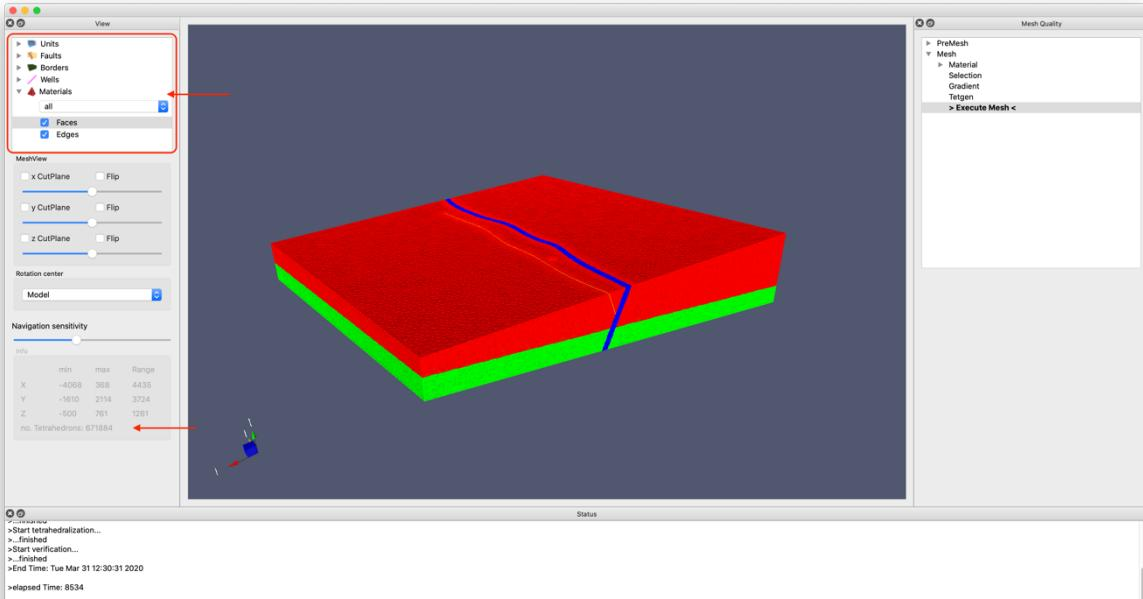

Figure 12 Quick visualization of a generated 3D mesh
*Tipp: The number of resulting elements of the 3D mesh is shown inside the info box below spatial model information (see Figure 12).*
- Quickly visualize the 3D Mesh via **View Panel** → **Materials** → **all** → check **Surfaces** and **Edges** (see Figure 12)